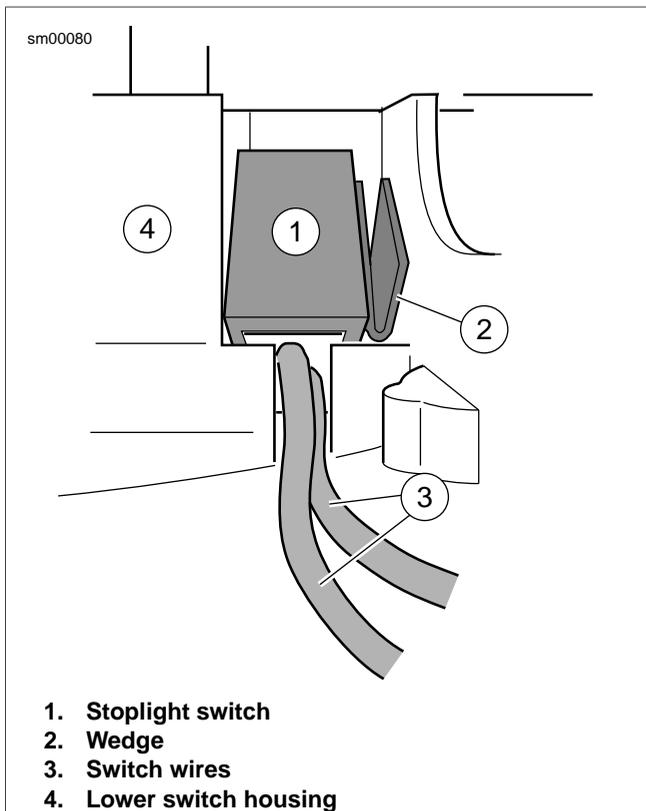

Figure 8-133. Install Stoplight Switch
6. Push down on switch, so that it bottoms against housing and wires run in groove at base of cavity. With concave side facing outward, insert wedge between switch and outboard side of switch housing. See Figure 8-133.